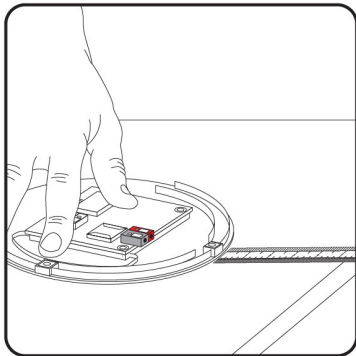

Figure 1: Measure and mark bottom unit location
- Measure and mark the exact position to place the bottom unit (Figure 1).